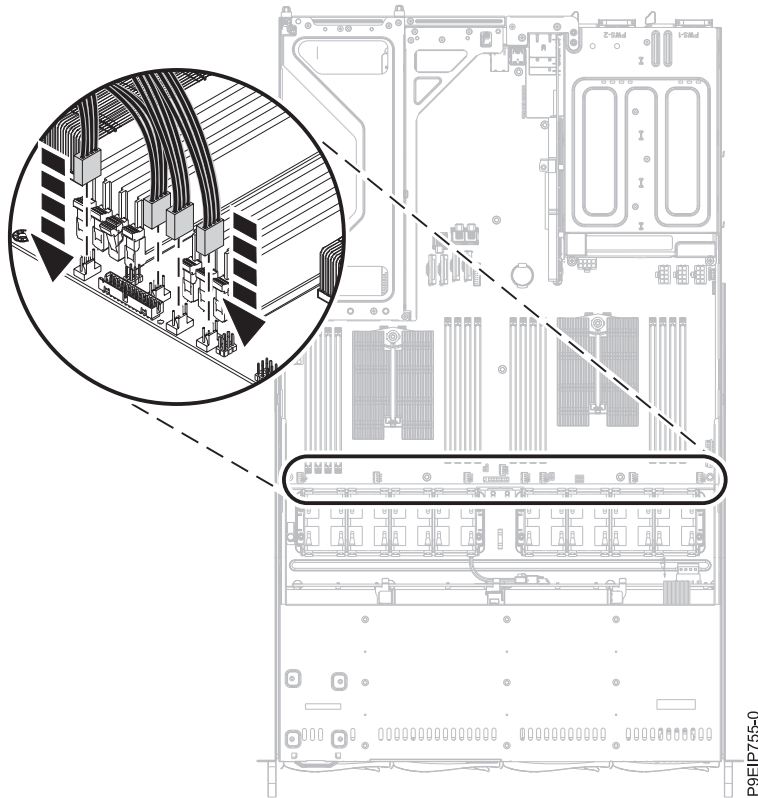

Figure 21. Replace plug
- 4. Connect the fan cable to the system backplane, as shown in Figure 21 on page 23.